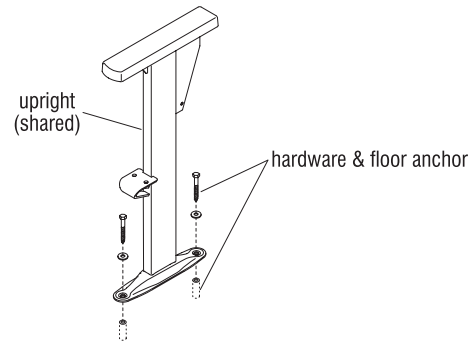

Figure 1
2. Align the mounting holes in the upright with the site appropriate and properly installed floor anchors. Insert site appropriate fasteners with flat washers through to the floor. **Do not tighten uprights to the floor at this time.** Leave head of fastener approximately $\frac{1}{16}$ " loose from contacting the upright (Figure 1).